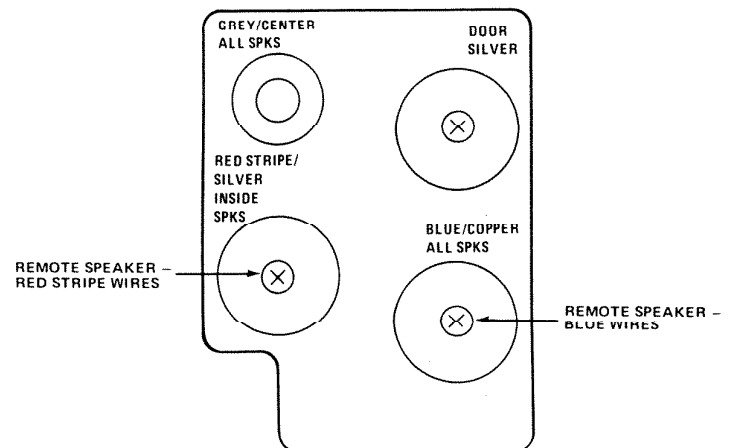

FIGURE 11
4. Connect common jumper wire from **RED STRIPE** wires to terminal screw marked **RED STRIPE/SILVER**. See Figure 11. Securely tighten terminal screws.
6. Connect common jumper wire from **BLUE** wires to terminal screw marked **BLUE/COPPER**. See Figure 11. Securely tighten terminal screw.